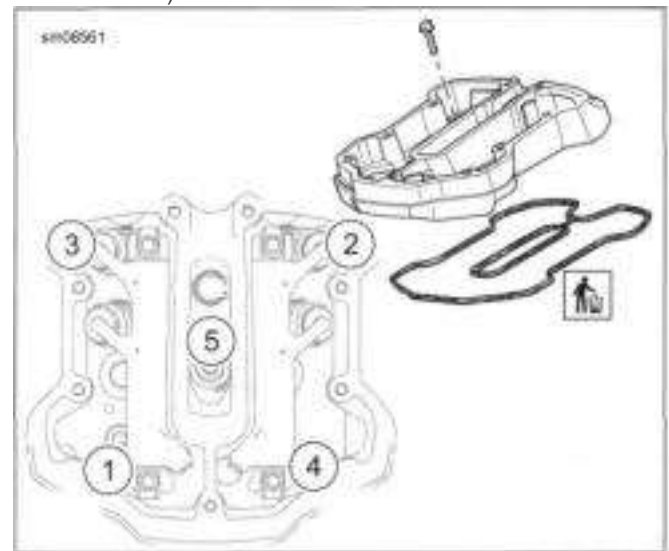

Figure 4-21. Lower Rocker Cover
1. See Figure 4-21 . Remove lower rocker cover.
2. See Figure 4-21. Install lower rocker cover.